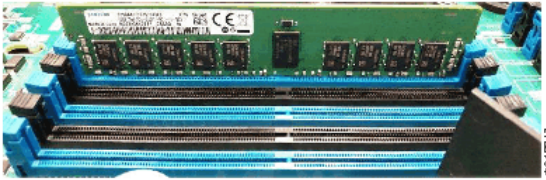

Figure 84. Installing the DIMM
13. Insert the DIMM into the connector by aligning the edges of the DIMM with the slots at the ends of the DIMM connector, as shown in Figure 84 on page 136.